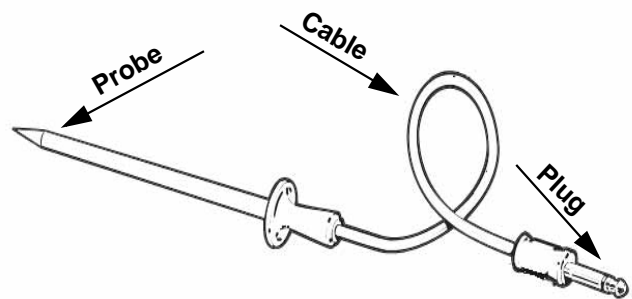

Figure 27: Meat Probe
2. Insert the plug end into the outlet (see Figure 27).